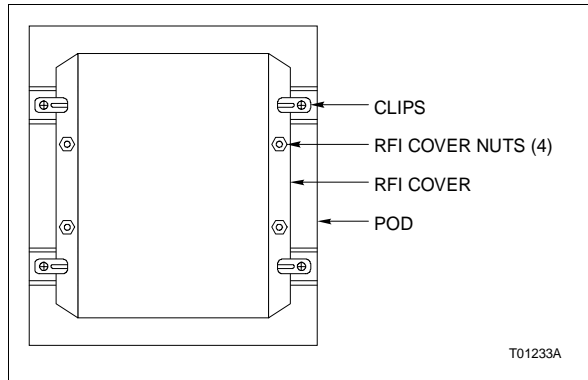

Figure PR65-2. ADP
- 6. Rotate the four clips that hold the ADP into the pod. It might be necessary to loosen the clip mounting screws (Fig. PR65-2).